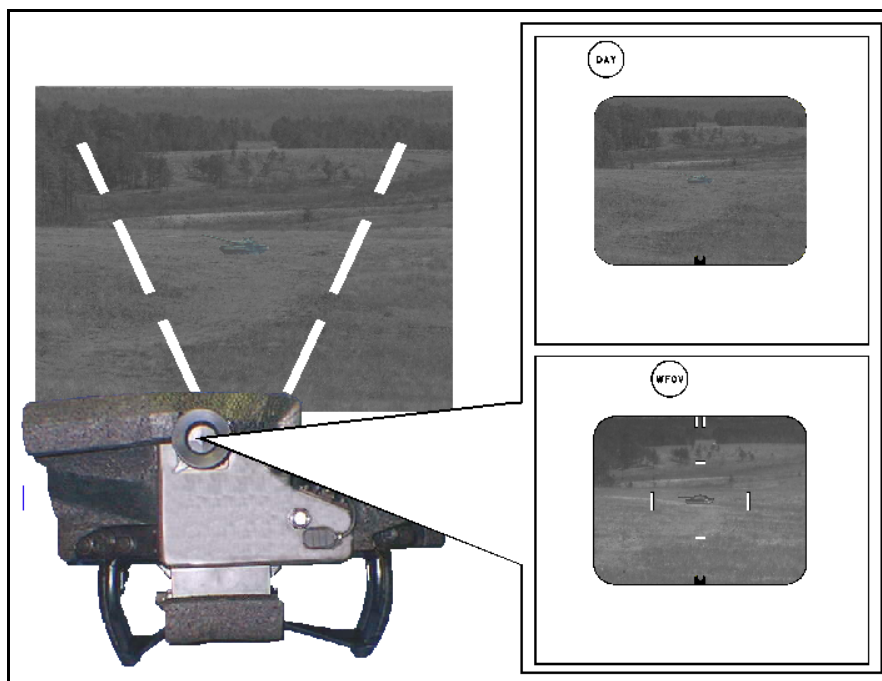

Figure E-25. Day FOV versus NVS operation during High levels of obscurations.
(1) Rain, snow, sleet, fog, haze, smoke, dust, and darkness are referred to collectively as limited visibility conditions. These conditions affect the gunner's ability to acquire and engage targets with the Javelin especially when using day FOV (Figure E-25, page E-16). The gunner uses the NVS to overcome darkness, haze, and some smoke systems.
(2) The NVS can see through low levels of these obscurants better than the daysight. Its capability is restricted at higher levels of obscurations (Figure E-25). The effect on the NVS image is a decrease in contrast.